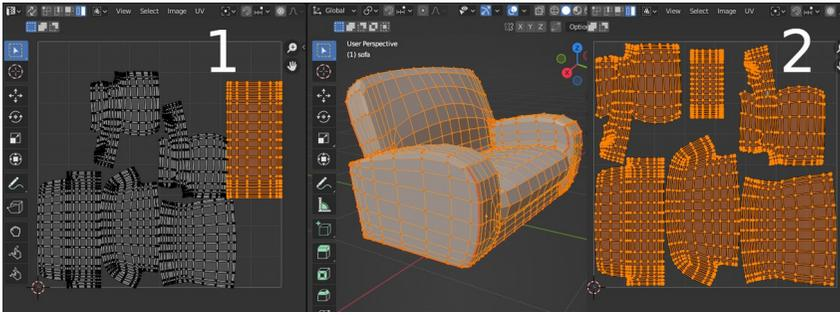

Figure 8-11 Unwrapping the main UV map
12. Define the seams for the UV unwrapping. Most of these can be tucked into creases or on edges at the back or bottom, however you will need one or two in visible places on the arms to prevent distortion of the UV mesh when it is unwrapped. You will be able to get a better layout if your seams cut the surface into islands so you can move and scale each one separately. The seams in Figure 8-11 produce islands for each arm, the seat, the back and the bottom. As the bottom will not normally be visible, it can be shrunk, after unwrapping, to leave more room on the image for the rest of the sofa.
13. Unwrap the UV mesh and adjust it to make the most use of the area. Use the tab right at the top of the window to change to the UV Editing preset for the active workspace, then in the 3D Viewport area hit **UV ▸ Unwrap**. You should get a result similar to Figure 8-11 stage 1.